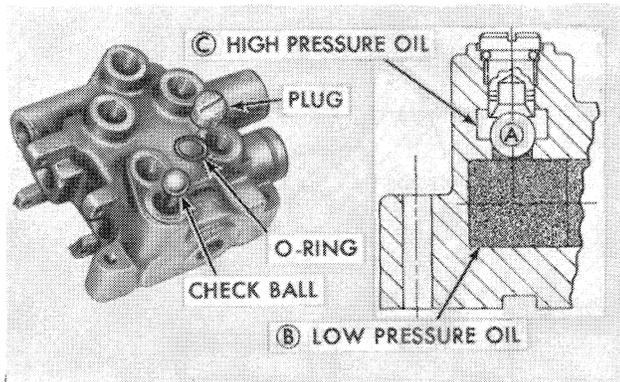

Figure 15
The anti-cavitation (anti-voiding) valve is located between the bucket cylinder piston end port and the low pressure or sump passage, Figure 15. During the dumping procedure, particularly with the bucket fully loaded, oil can be forced out of the rod end of the cylinder faster than the pump can supply oil to the piston end of the cylinder. A void (air bubble) will be formed in the piston end of the cylinder if there is lack of oil supply. To supplement pump oil, the oil leaving the rod end flows to the piston end through the anti-cavitation valve instead of returning to sump.
In operation, the valve functions when oil leaving the rod end exceeds the pumped oil supply. The low-pressure oil (B), Figure 15, in the reservoir passage pushes the check ball (A) off its seat; the oil then enters the cylinder port (C), supplementing the pump